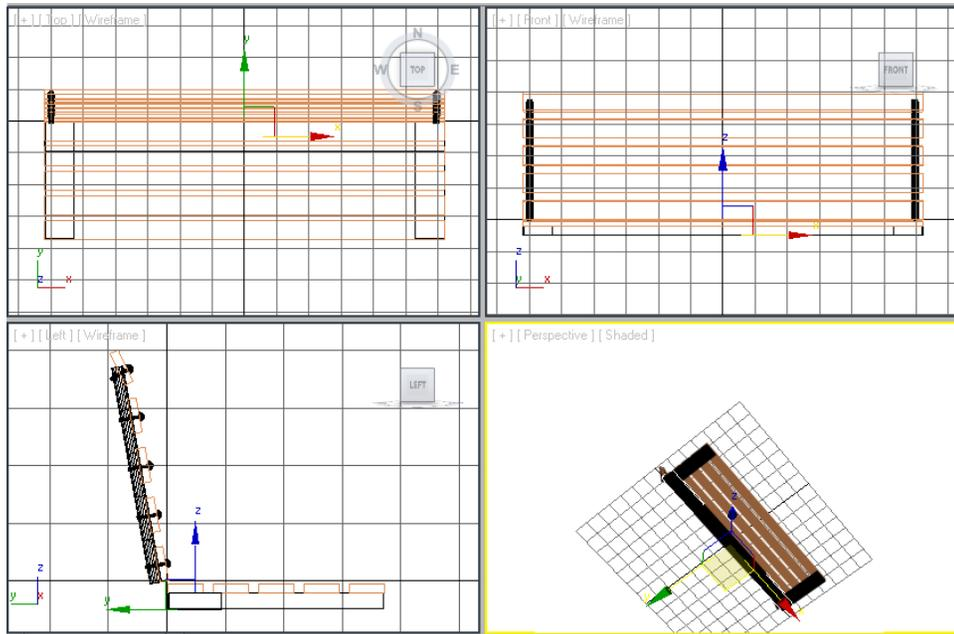

Figure 2-78 Alignment of leg support003 with horizontal seat support in viewpoints
10. Choose the **Select and Move** tool and align *leg support003* with *horizontal seat support* in all viewports, as shown in Figure 2-78.